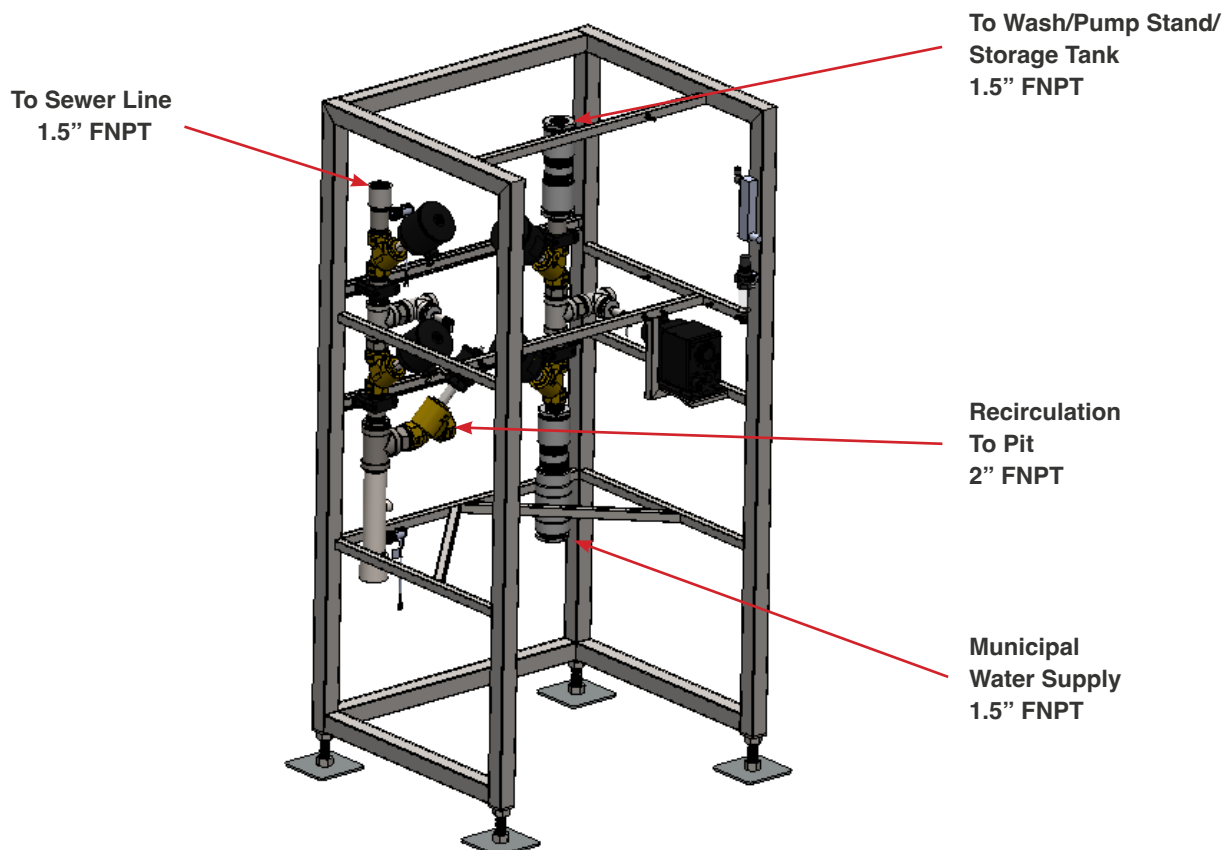

Fig. 3.3.4 - 1 - Reclaim System main frame connection locations
1. Connect a 1.5" municipal water feed line to the **Municipal Water Supply** connection (Fig. 3.3.4 - 1). There is a check valve to ensure that no reclaim water can get into the municipal feed in the event of serious filter failure.
2. Connect a 1.5" line to the **To Wash/Pump Stand/Storage Tank** connection (Fig. 3.3.4 - 1) to feed your reclaim storage or pump stand.
3. Connect a 1.5" line to the **To Sewer Line** connection (Fig. 3.3.4 - 1).